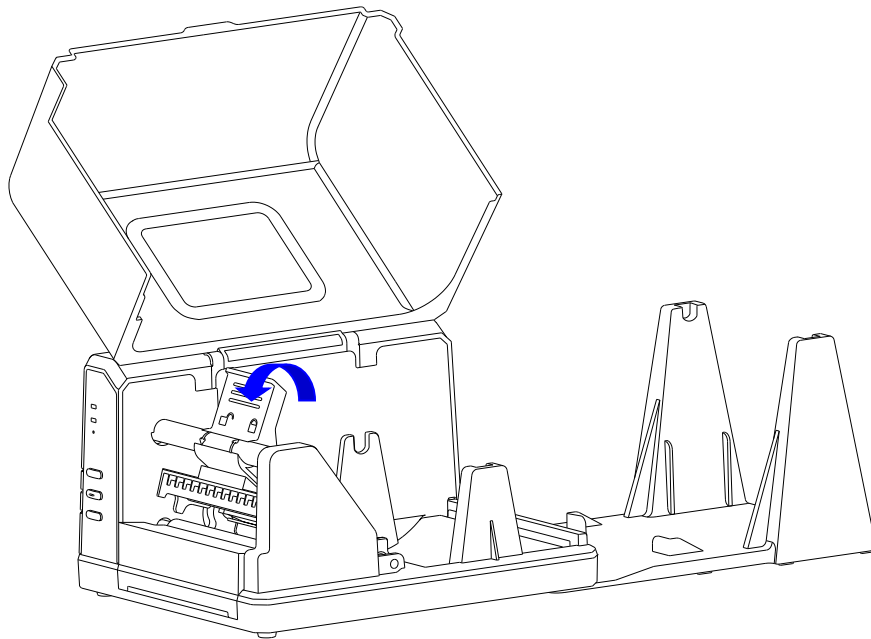

Figure 2-15 Lift the Handle
2. Lift the right cover of the printer and lift the Handle of the Printhead. See Figure 2-15.